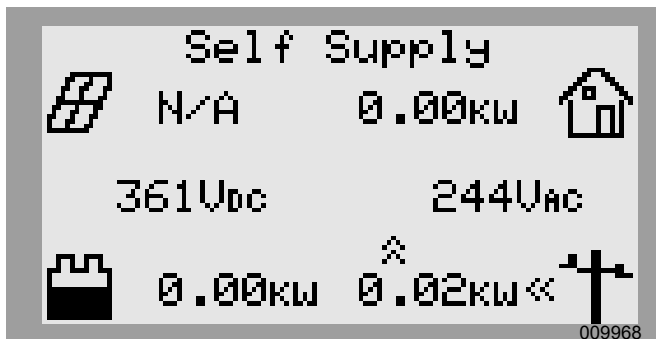

Figure 6-5. Selecting Operational Modes (4 of 4)
- See **Figure 6-5**. Verify the mode listed at the top of the home screen is the desired mode.